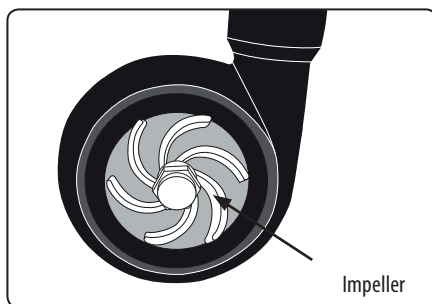

Fig.4
- Keep the pump clean. It is necessary to thoroughly flush the pump with clean water after use and to rid it of stuck on material so that the impeller (Fig. 4) and the passageways are not blocked by dried dirt (see paragraph above „Putting the pump out of operation“).
The impeller is blocked	Disassemble the base (Fig. 1, position 4) and clean the area of the pump's impeller (Fig. 4)
The rotor is stuck in the sealing surfaces	Rotate the impeller (Fig. 4)